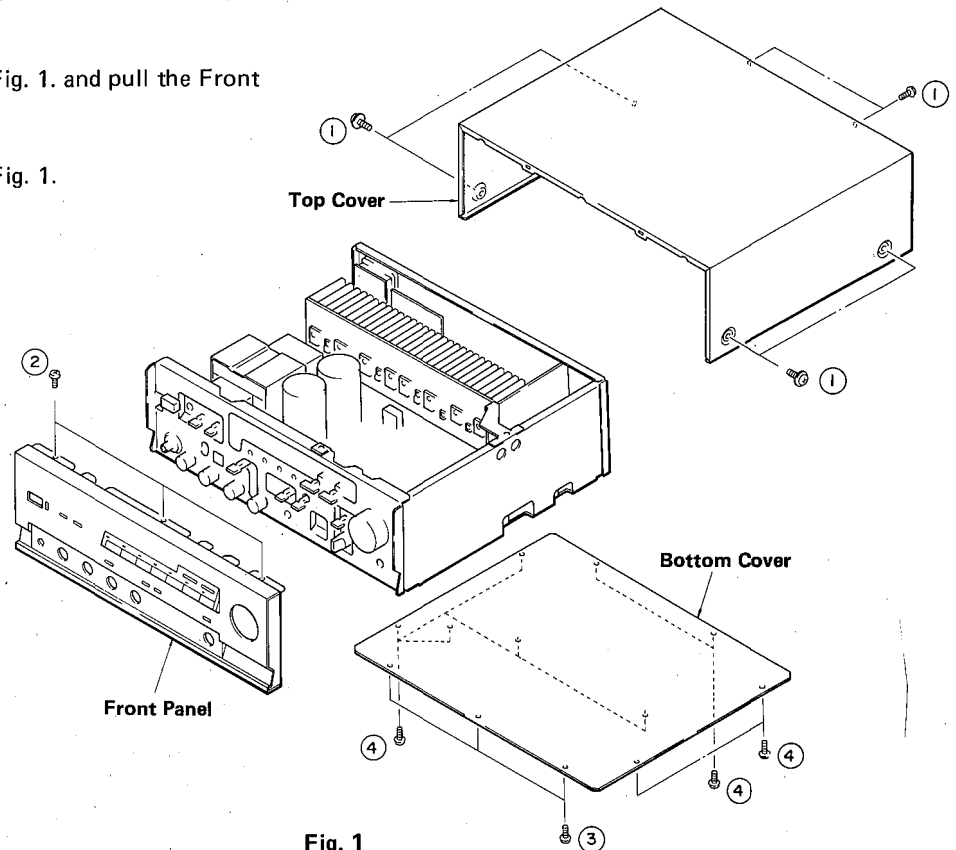

Fig. 1
Remove 6 screws (①) in Fig. 1, and slide the Top Cover back.
Remove 6 screws (②, ③) in Fig. 1. and pull the Front Panel forward.
Remove 9 screws (③, ④) in Fig. 1.